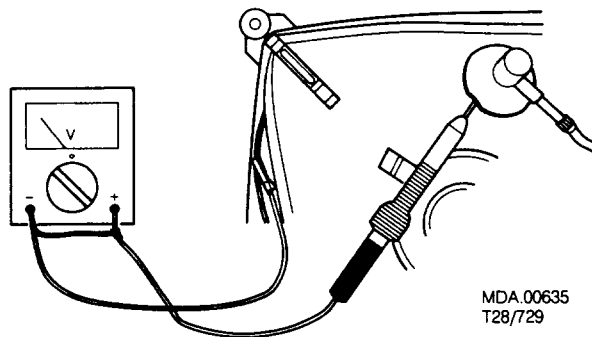

Fig.3.1
2. In order to prevent damage to ICs and transistors, all high-voltage flash-overs must be avoided. In order to prevent damage to the picture tube, the method shown in Fig. 3.1 should be used to discharge the picture tube. Use a high-voltage probe and a multimeter (position DC-V). Discharge until the meter reading is 0 V (after approx. 30s).